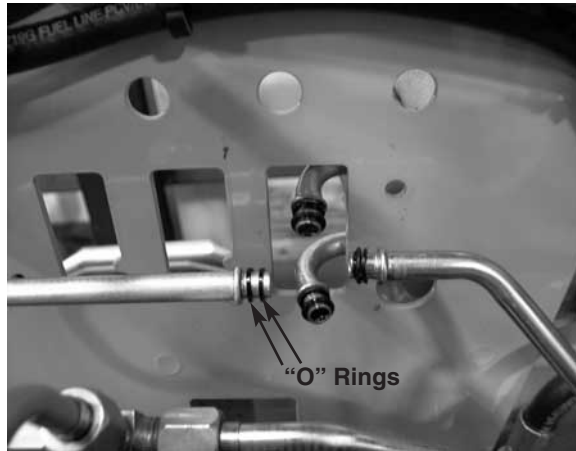

FIGURE 4.
NOTE: All the hydraulic lines and tubes going into the hydraulic valve ports have two "O" rings on each connector. See figure 4.
11. Inspect the "O" rings for damage. If damaged, replace. See figure 4.